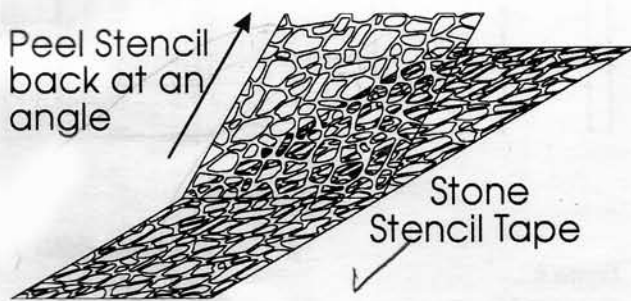

Figure 4
2. Peel the Stencil Webbing from the Stone Pattern Stencil Tape at about a 45° angle as in Figure 4. Stick the Stencil to the bottom edge of the Base Walls leaving enough overhang of the ends of the walls to hold onto for removal. Press firmly for full contact. Mask the Base Walls above the Stone Stencil with masking tape. This will prevent the Stone Mix from adhering to the area where the 5-155 trim will be glued later.